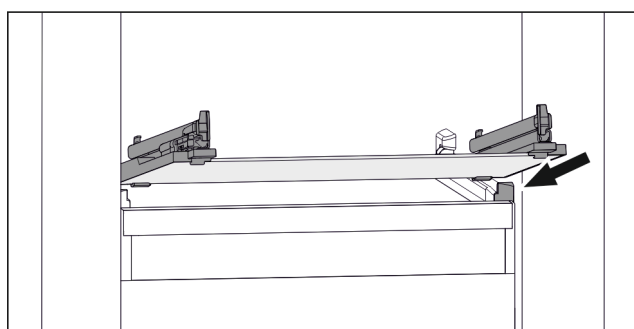

Fig. 154 Example illustration of glass shelf
- Position glass shelf at an angle behind the stoppers. (see Fig. 154)